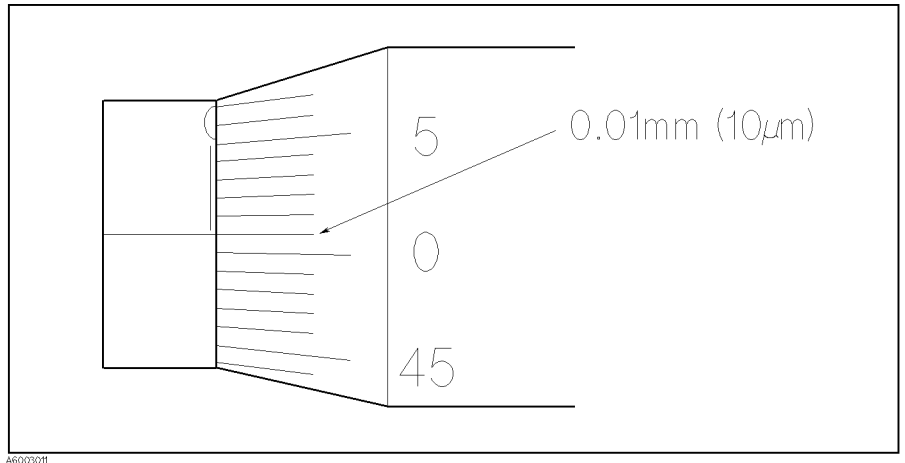

Figure 3-28. The Micrometer Scale Adjusted to 0.01 mm
6. Turn the small knob of the micrometer cw and adjust it until the micrometer scale indicates 0.01 mm (10 μ m) as shown in Figure 3-28.
6. Turn the small knob of the micrometer cw and adjust it until the micrometer scale indicates 0.01 mm (10 μm) as shown in Figure 3-28.